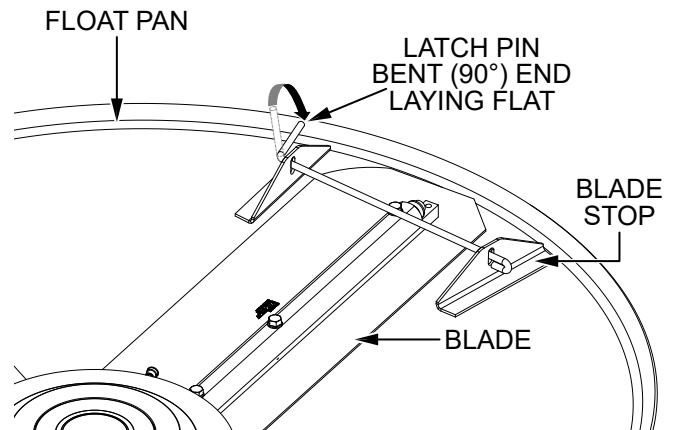

Figure 29. Latch Pin Placement
4. After it has been routed through the **blade stop** holes, rotate the **latch pin** so the end that is bent approximately 90 degrees lays flat on the surface of the **float pan**. See Figure 29.